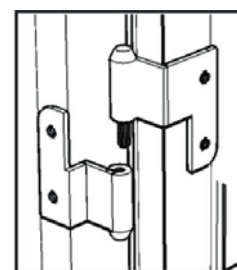

Figure 8
Attach Doors (Q) and (R) by sliding the door lift hinges into the side panels lift hinges. (See Figure 8)